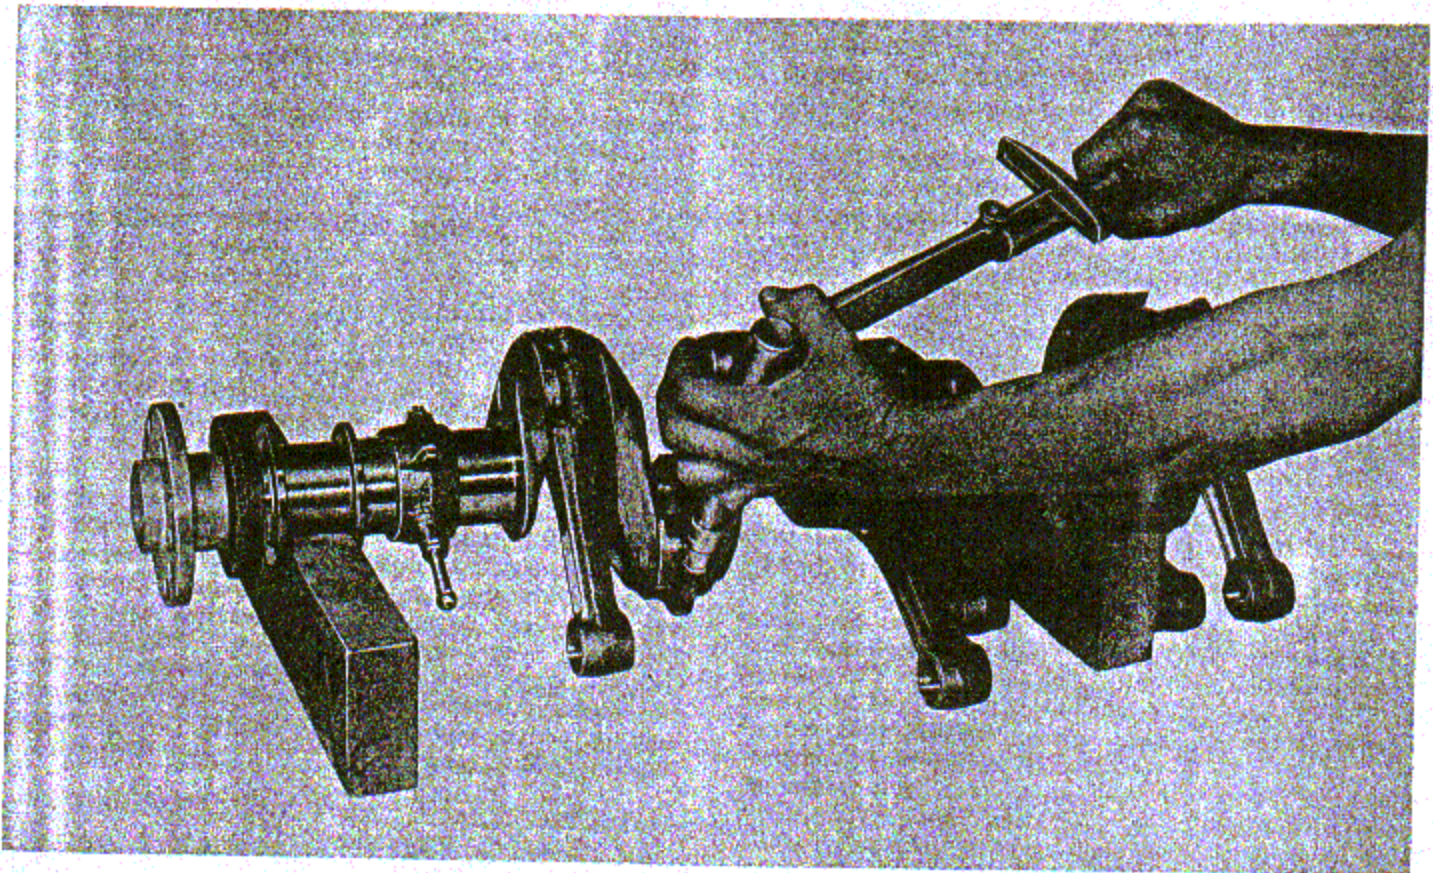

Figure 6-4. Tightening Connecting Rod Cap Bolt Nut
6-38. To facilitate reassembly of crankshaft, support front and rear journals in notched 2 x 4 in. wooden blocks (see figure 6-4.) Proceed with reassembly as follows:
- f. Use a torque indicating wrench and a suitable length of extension to drive a 1/2-inch hex socket; then start at No. 1 rod and progressing forward, tighten all cap bolt nuts to a torque within limits specified in Table of Tightening Torques, Section X. (Refer to paragraph 6-15 regarding slot alignment.) (See figure 6-4 for method of holding rod and maintaining torque wrench alignment.)